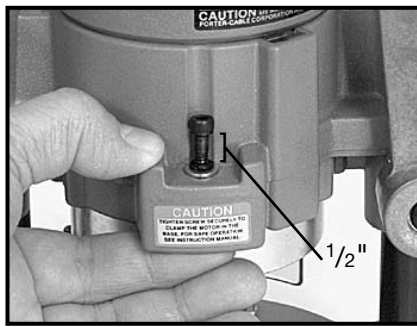

Fig. 5
2. Support clamp (see Fig. 5) and loosen motor clamp screw approximately $\frac{1}{2}$ ", with allen wrench (furnished).